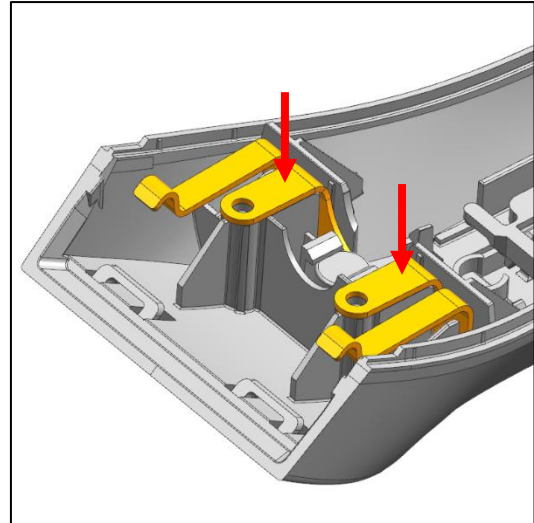

Fig. 30
- b) Push the eyelets of the holding plates downward until they rest on the screw bosses (Fig. 30).